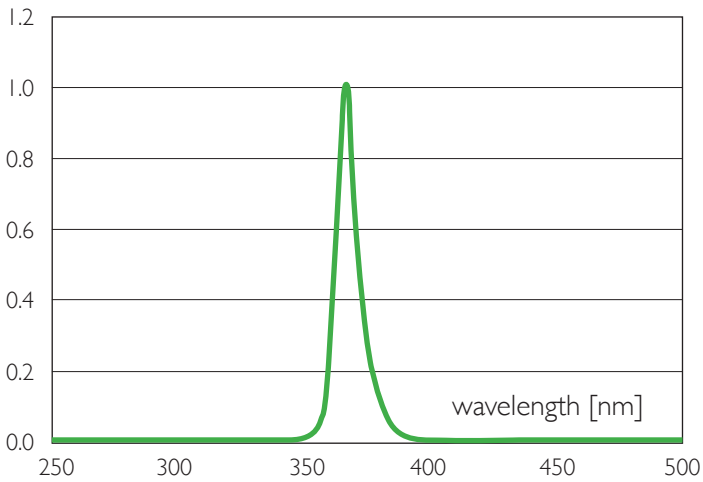

Fig. 1 - Emission peak is at 365 nm
- C. Spectral power distribution (figure 1)